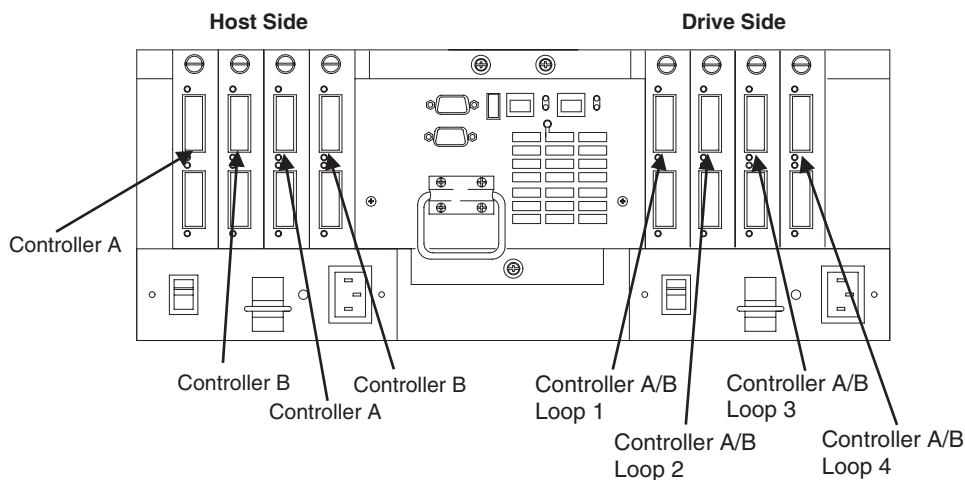

Figure 139. FAST500 controller connection locations
Figure 139 shows the locations of the controller connections in a FAST500 or FAST700 Fibre Channel controller unit.
**Note:** In Figure 139, a FAST500 controller unit is shown.